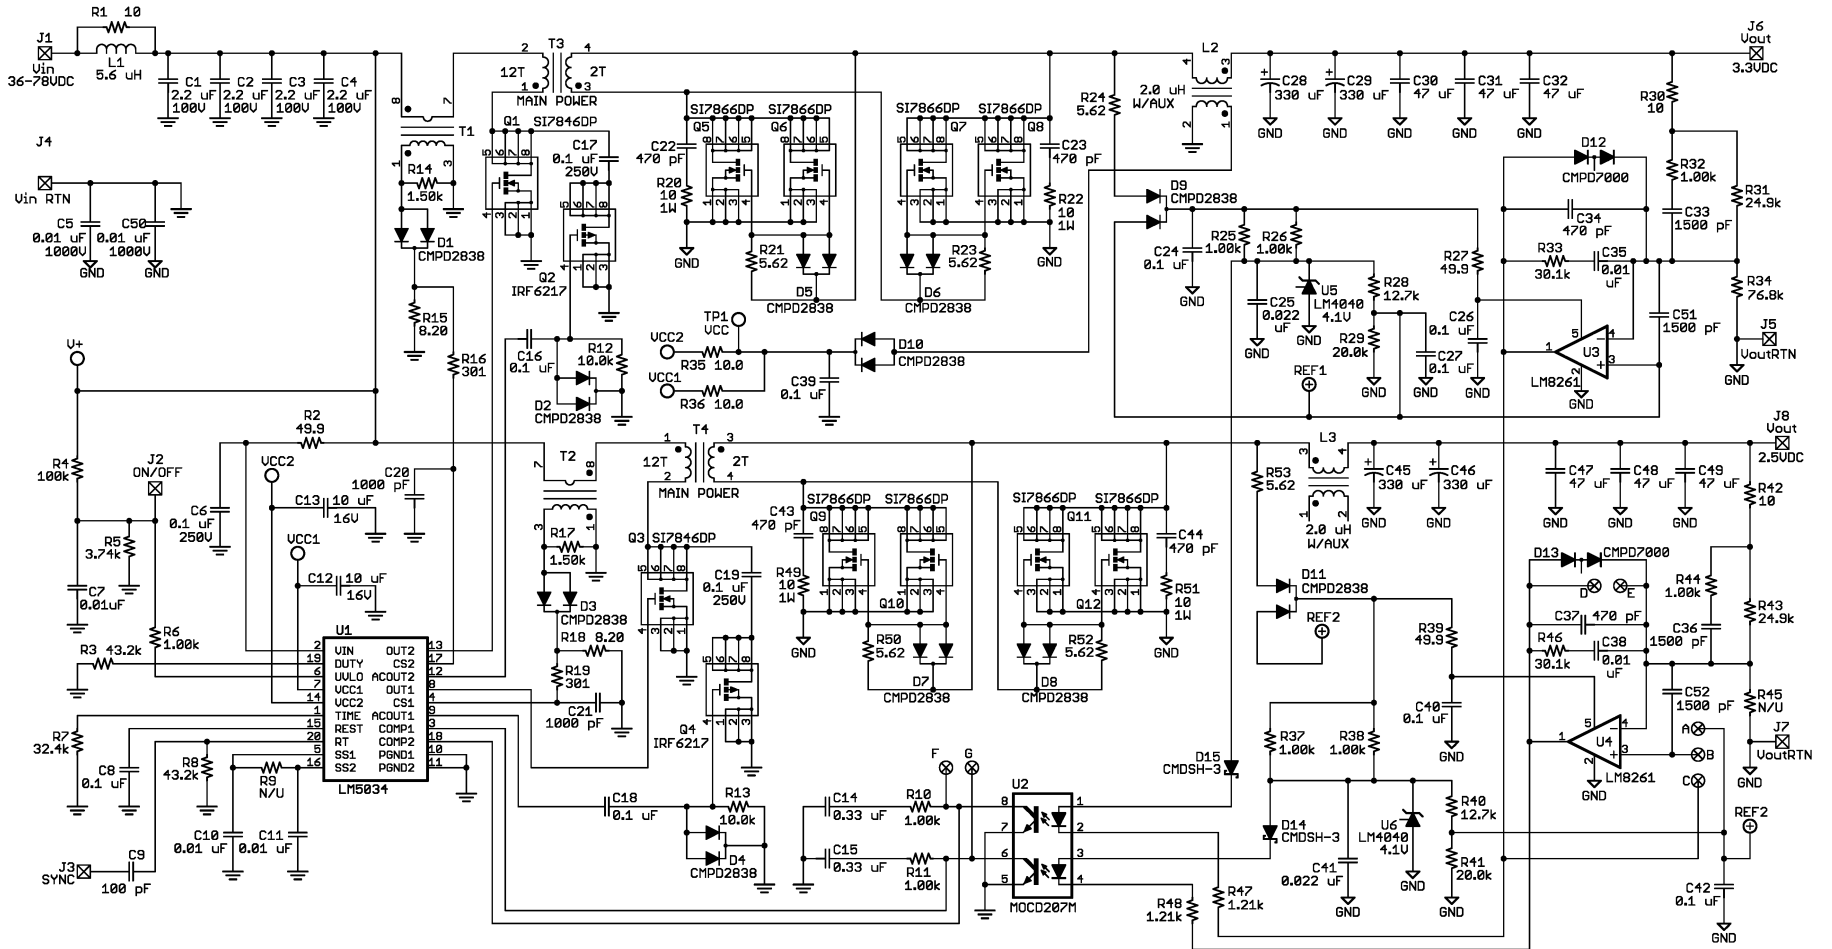

Figure 40. Dual Interleaved Regulator
Figure 40 shows an example of an LM5034 controlled 200W dual interleaved regulator which provides two independent regulated outputs or a single high current output. The input voltage range ( $V_{PWR}$ ) is 36V to 78V, and the output voltages are 3.3V and 2.5V in the dual output mode, or 3.3V in the single output mode. The output current capability is 30A from each output or 60A in the single output mode. Current sense transformers T1 and T2 provide information to the CS2 and CS1 pins for the current mode control, and error amplifiers U3 and U4 provide voltage feedback to COMP2 and COMP1 via optocoupler U2. Synchronous rectifiers Q5-Q12 minimize rectification losses in the secondaries. An auxiliary winding on inductor L2 provides power to the LM5034 VCC pins when the outputs are enabled. The UVLO levels are  $\approx 34.3V$  for increasing  $V_{PWR}$ , and  $\approx 32.3V$  for decreasing  $V_{PWR}$ . The circuit can be shut down by forcing the ON/OFF input (J2) below 1.25V. An external synchronizing frequency can be applied to the SYNC input (J3). Each regulator output is current limited at  $\approx 31.5A$ .
**Table 1. Bill of Materials (Circuit of Figure 40)**
**Table 1. Bill of Materials (Circuit of Figure 40) (continued)**